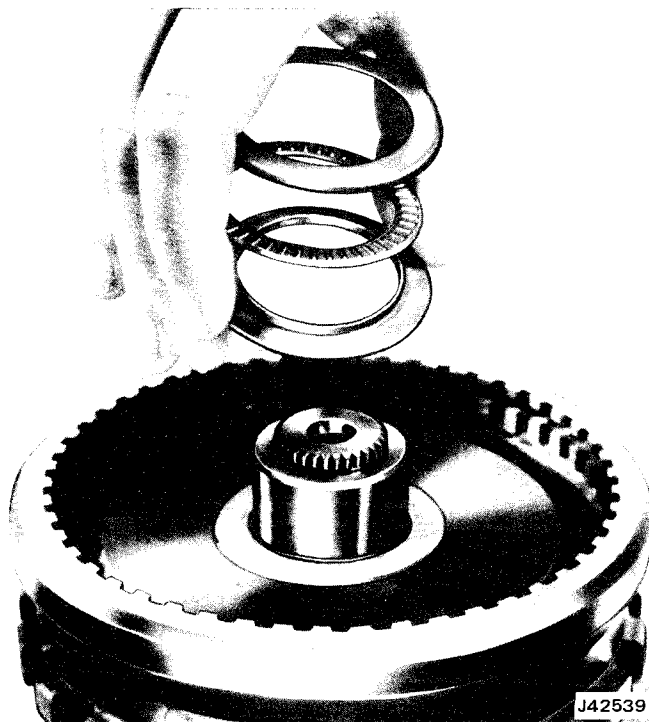

Fig. 2C-138 Rear Internal Thrust Bearing and Bearing Race Installation
(13) Install front internal gear ring on output carrier (fig. 2C-140).